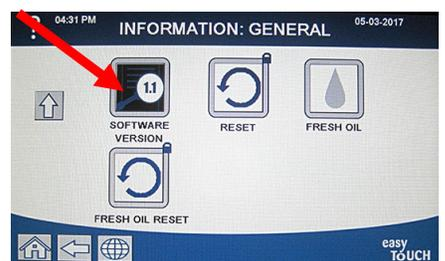

Figure 10
- Press the software version button (see Figure 10).